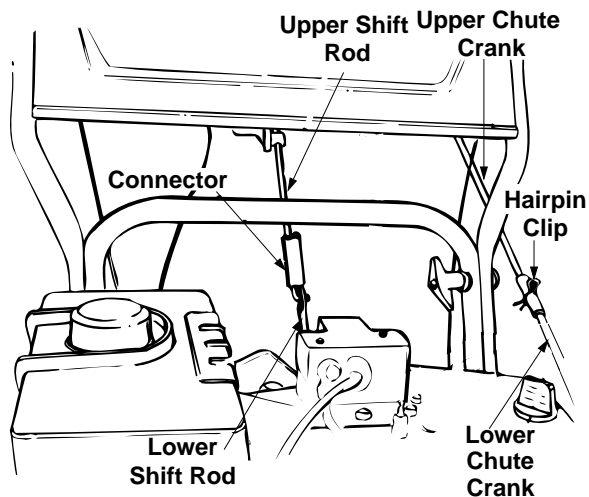

Figure 5
9. Slide the shift rod connector down over the end of the lower shift rod. See Figure 5. Tap the connector until it **locks** on the lower shift rod.
10. Remove the hairpin clip from the end of the upper chute crank. Slide the upper chute crank into the lower chute crank. Align the holes, and secure with hairpin clip. See Figure 5.